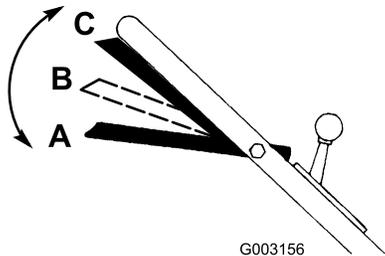

Figure 13
1. Have the blade control bar in the A position (Figure 13).
2. Slide the blade control bar to the right and raise it to the B position to engage the blade (Figure 13).
3. Squeeze the blade control bar against the handle to the C position to drive (Figure 13).